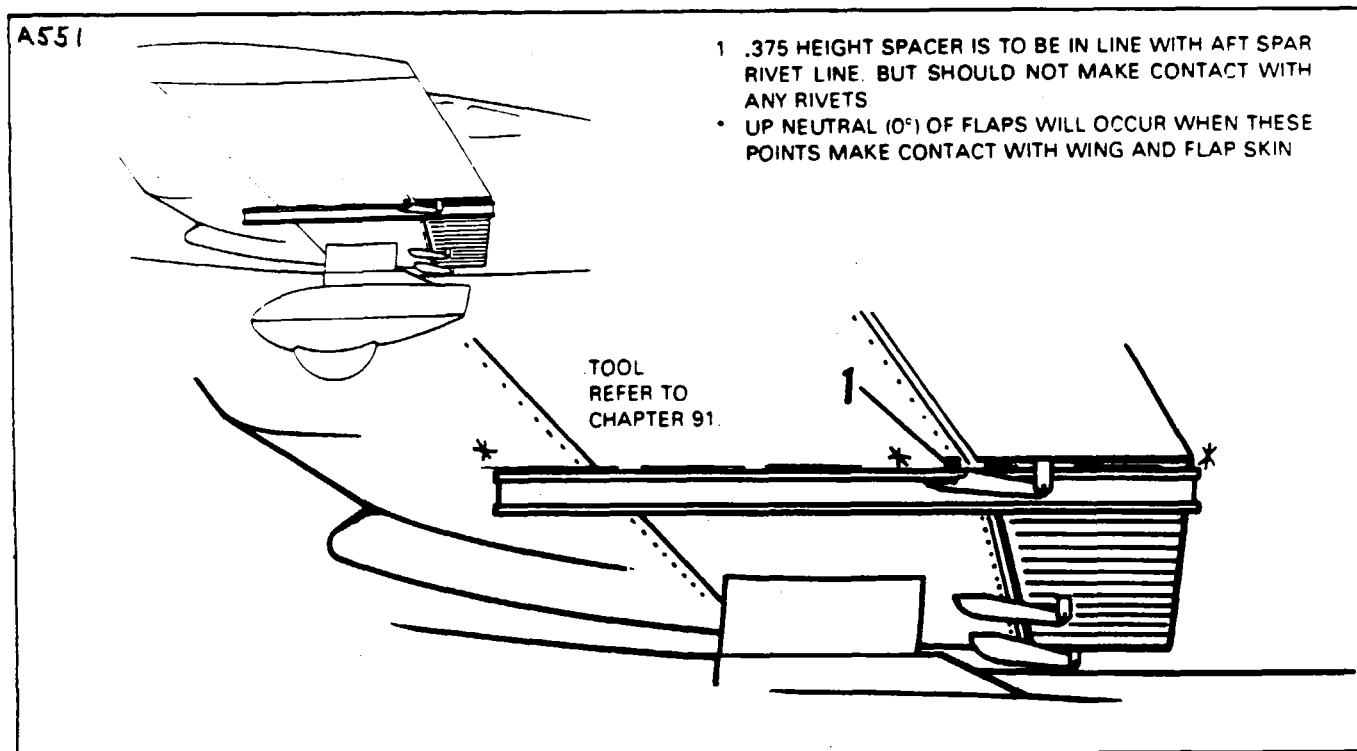

Figure 27-25. Flap Rigging Tool
6. To check the up-neutral position of the flaps place a flap rigging tool as shown in Figure 27-25 against the underside of the wing and flap as close as possible to the outboard end of the flap without contacting any rivets. (Refer to Chapter 95 for dimensions to fabricate this tool.) The tool must be positioned parallel with the wing ribs, with the aft end of the tool even with the trailing edge of the flap.